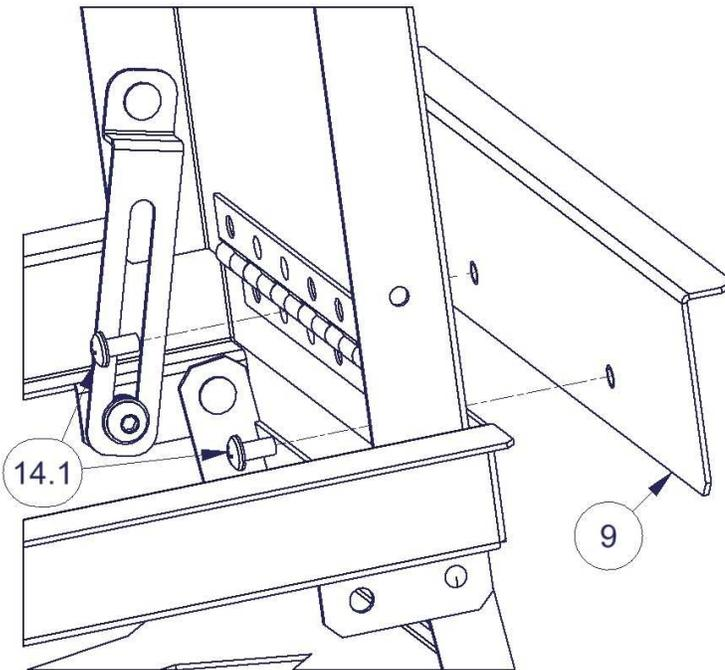

Figure 3
- Open the Insert Lid and install the #9 Rear Plate using (2) of the #14.1 Machine Screws. It is generally easier to align the holes in both components when the front of the Insert is elevated. See Figure 3